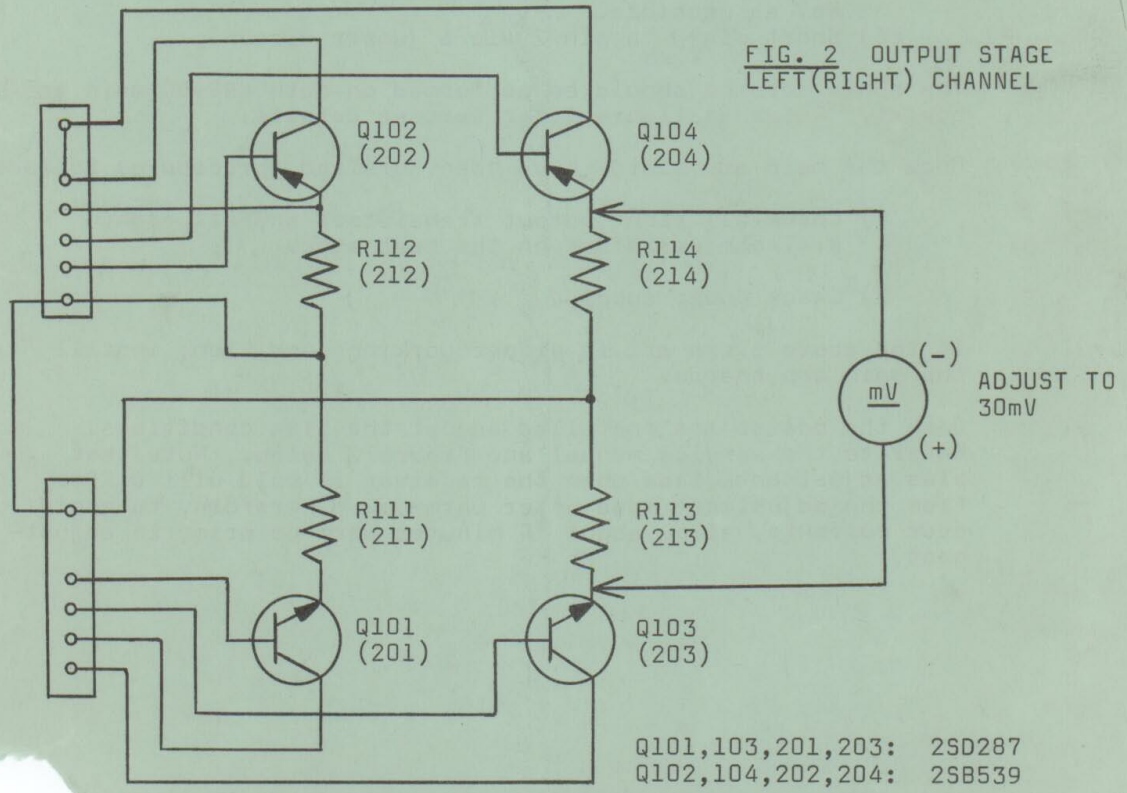

FIG. 1
The above service should be performed on both KR9400 main amp boards. Refer to figure 1 for further details.
- \* When connecting the r.f. generator, to the antenna terminal use the dummy antenna . . . refer to Fig. 1.